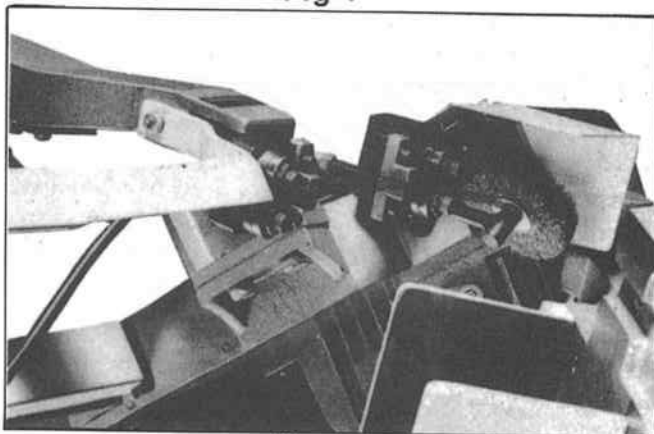

Fig 5
9. Work the blade all the way up between the blade guide bearings with the back of the blade against the back-up bearing, as shown in Fig. 5.